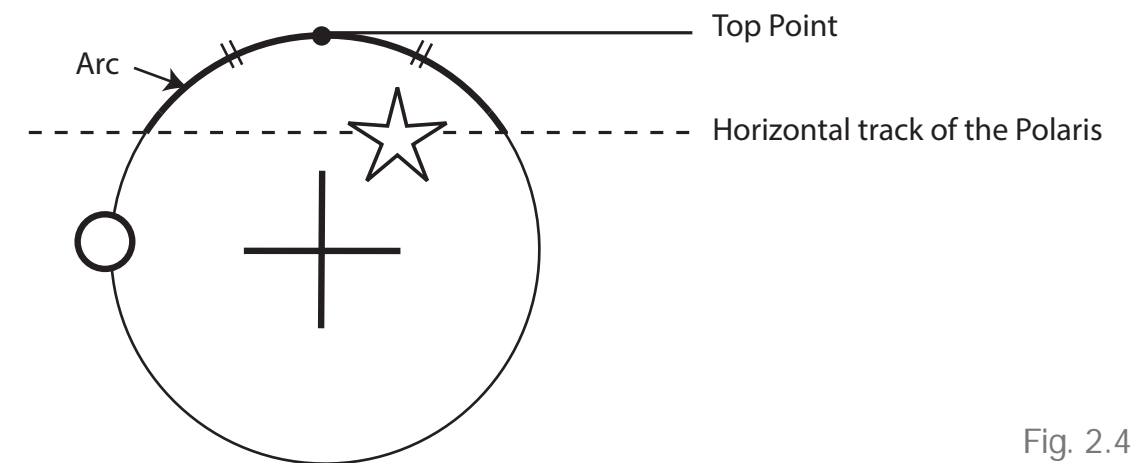

Fig. 2.4
**Tips:** To find the top of the large circle in FOV of the polar scope, use the latitude jackscrew to move the Polaris close to the top of the circle, and then use the azimuth adjustment knobs to move the Polaris in the FOV horizontally. The middle point of the arc which was cut by the horizontal track of the Polaris is the top of the large circle (Fig 2.4).